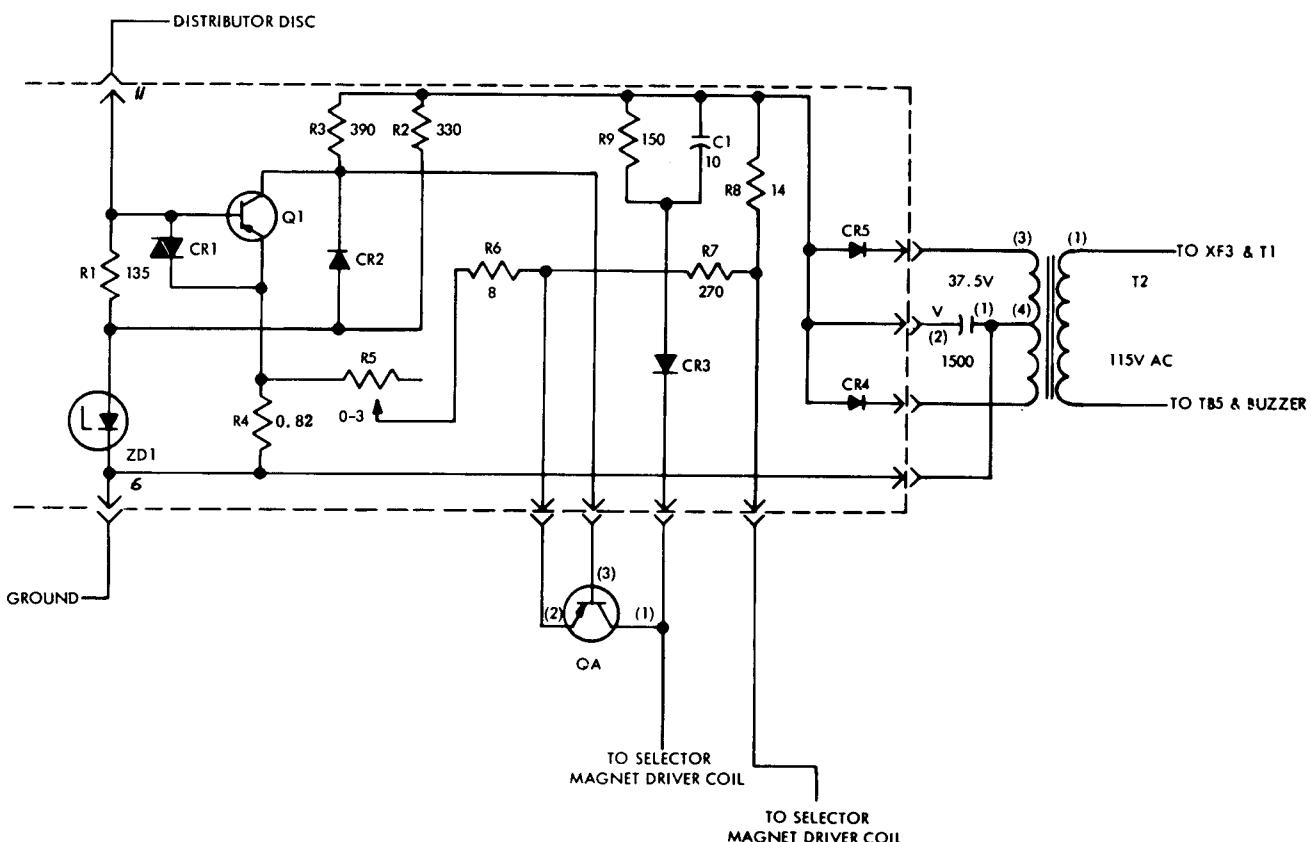

Figure 6 - Selector Magnet Driver Circuit
**3.15** The selector magnet driver circuit (Figure 6), combined with an external power transformer, and a filter capacitor, provides 0.500 ampere current for driving the selector magnet from a telegraph signal source of appropriate input line current. The input signals are applied through terminals 6 and 11, with R1 determining the switching level.